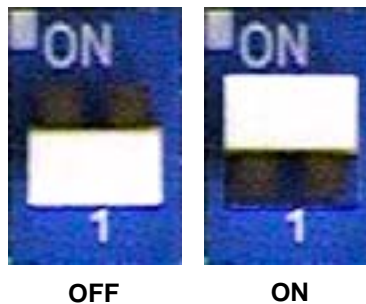

Figure 1.5 – Termination Switch
- 7:** If this unit is either the first or the last device on the network, including PLCs and PROFIBUS-DP Masters, and active termination is not used, set the termination resistor switch to ON. If this device is not the first or last device on the network or active termination is used, set the termination resistor switch to OFF. Refer to **Figure 1.5 – Termination Switch**.